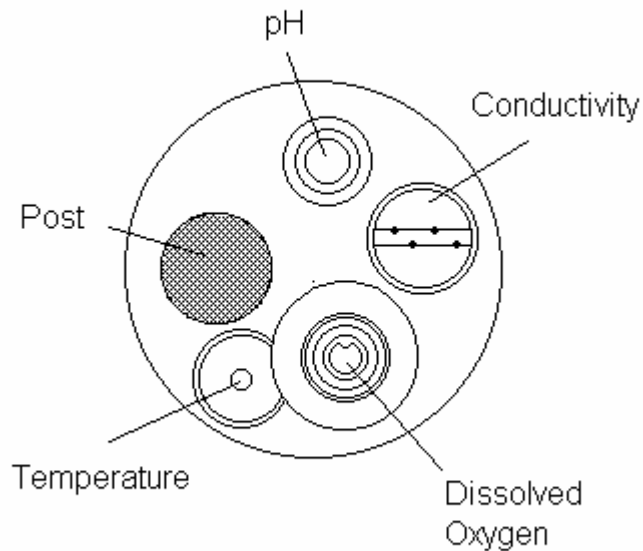

Figure 3: End view of probe (without bottom section) showing position of sensors.
1. Loosen the two retaining screws in the stirrer support posts, (refer to figure 3), do not remove them.